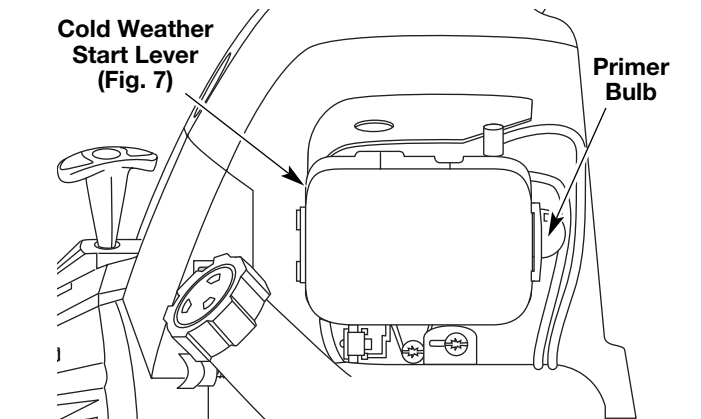

Fig. 12
4. Fully press and release the primer bulb 10 times, slowly. Some amount of **fuel should be visible in the primer bulb** and fuel lines (Fig. 12). If you can't see fuel in the bulb, press and release the bulb as many times as it takes before you can see fuel in it.